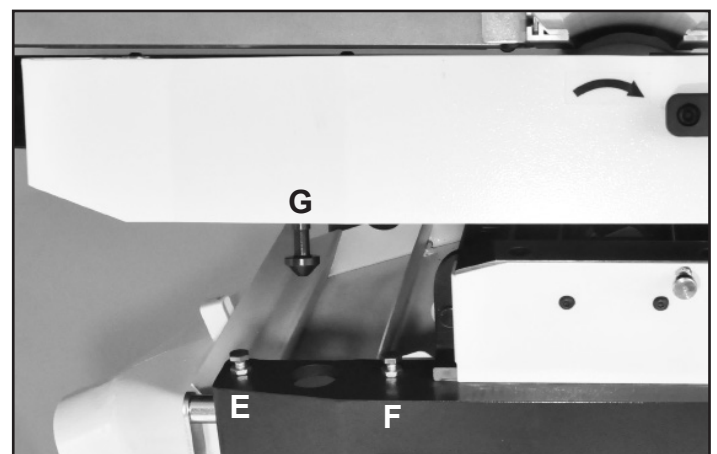

FIG. 20
4. The table can also be tilted forward or back with the two Special Bolts (#18, FIG. 20, E & F). The combination of the six bolts and screws (A-F) provide a great range of table positioning to level it with the infeed table.
6. With the table lowered, make sure the two safety Table Locks (#104, G) will engage. These special bolts can be adjusted up or down by their threaded ends, then secured with their attached Nuts (#106). FIG. 20.